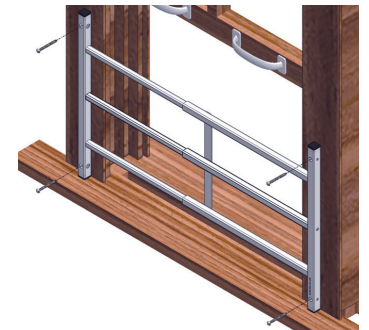

FIGURE 3
1. Position full assembly outside of window frame. The window guard should be placed against the facing surface of the window frame so as not to interfere with the sash operation. Telescope the window guard so that the uprights are centered on the window frame, all safety decals should be facing you. (figure 3)